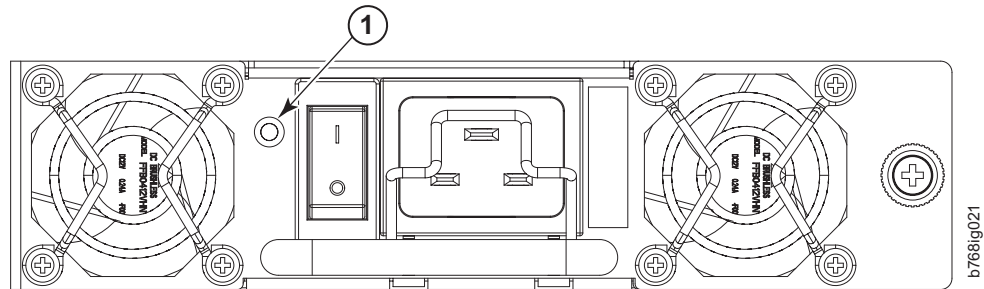

Figure 24. Power supply LEDs
1. Check the LED indicator on the power supply (see Figure 24 on page 73). The LED patterns may temporarily change during POST and other diagnostic tests; for information about how to interpret the LED patterns, see Table 9 on page 73.